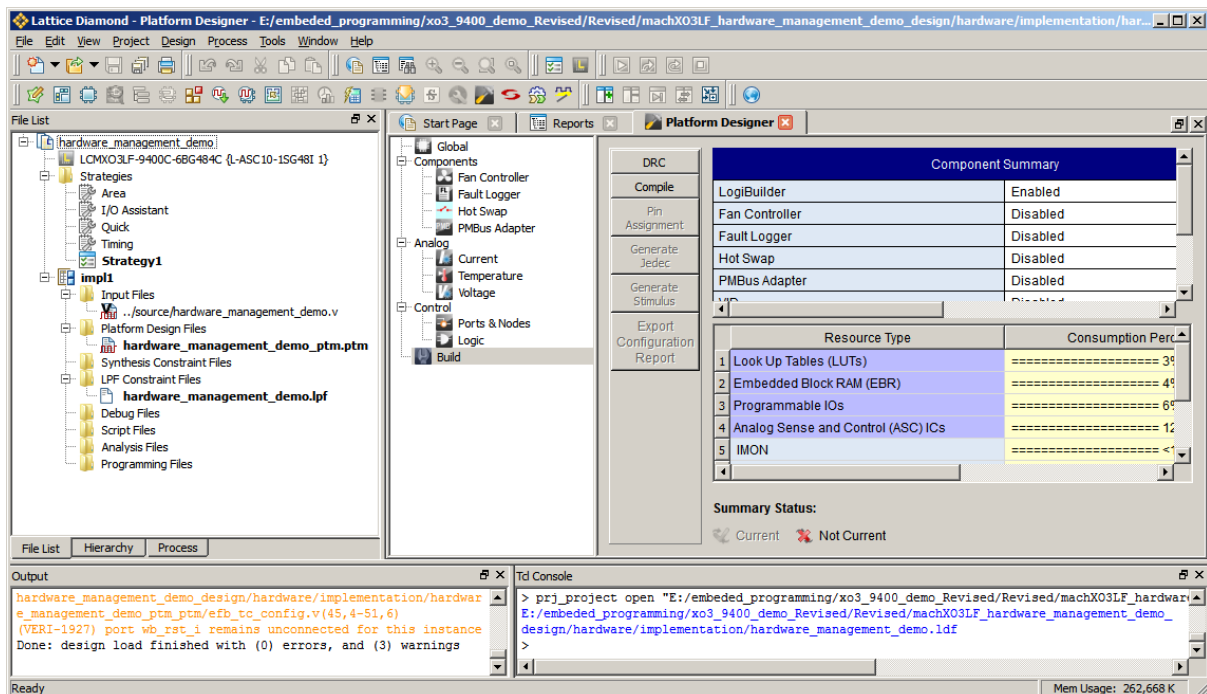

Figure 9.4. Building the Design
- In the Platform Designer main window, click the **Build** button. Click also the **DRC** and **Compile** buttons as shown in Figure 9.4.